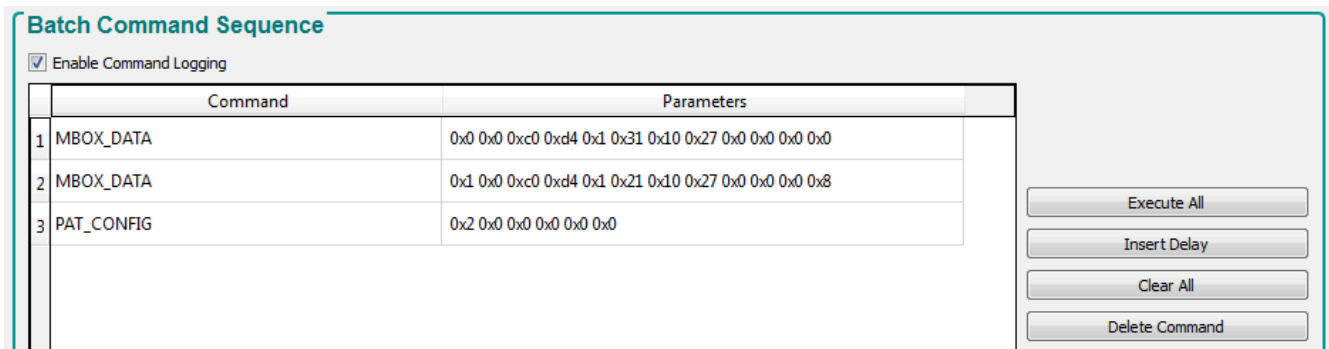
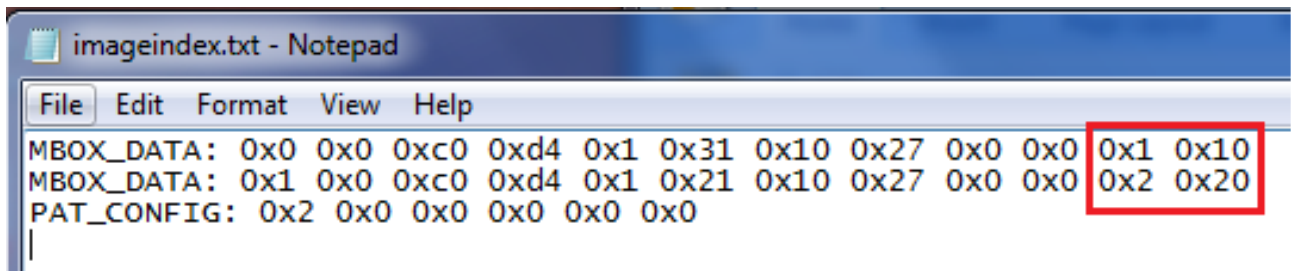

Figure 3-21. Pattern LUT Definition and Configuration
Figure 3-22. Updating the Index and Bit Position
10. Figure 3-21 shows the *Pattern LUT Definition and Configuration* of the pattern sequence.
16. Use Notepad or a similar editor to open and edit the batch file saved in step 11. The file is typically stored in the folder named *DLPC900REF-GUI*, then the *[DMD]_Images* folder depending on which EVM is being used. Change the image index and bit position as seen in Figure 3-22. See the DLPC900 Programmer's Guide (DLPU018) for details of the Pattern LUT Definition and Configuration commands.
17. Figure 3-22 shows the image index and the bit position of the images for the two patterns, where the values have been changed compared to the values in Figure 3-21. Click the *Save* to save the new batch file.